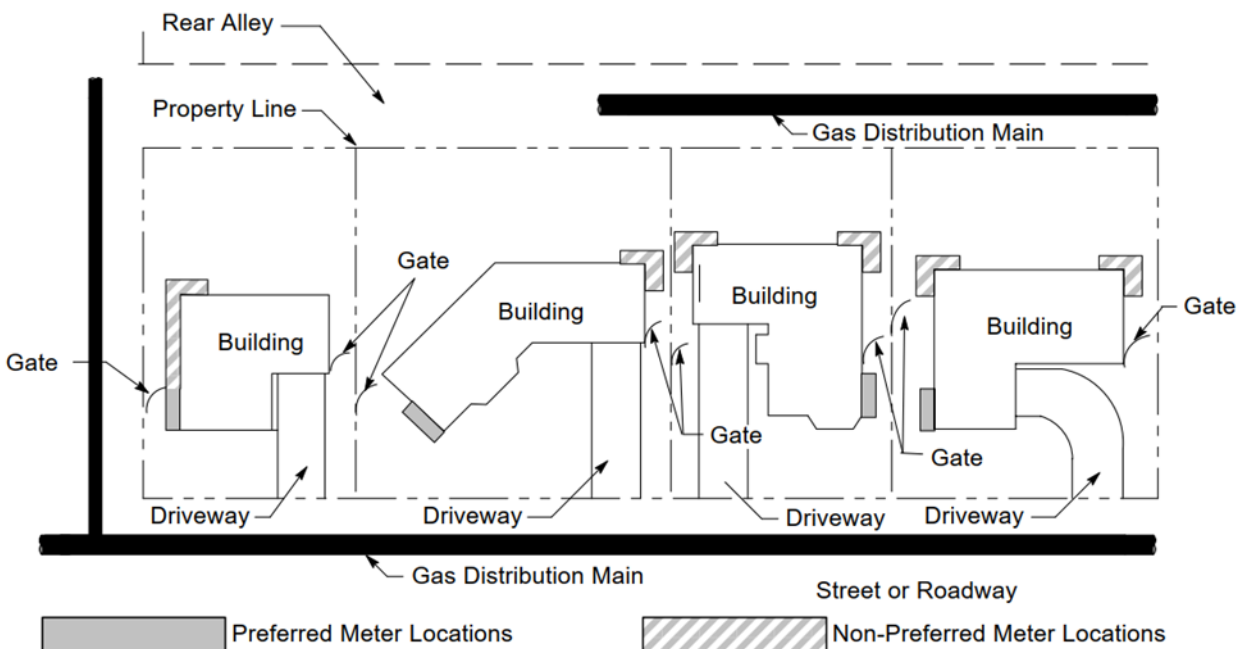

Figure 1. Acceptable Locations for Gas Meter Installations
- A. Approved meter locations, listed in order of preference (see Figure1):